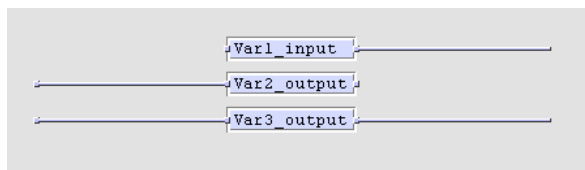

Figure 82: Direction of global variables
- The direction of the variable is determined based on the graphical representation, shown in Figure 82.